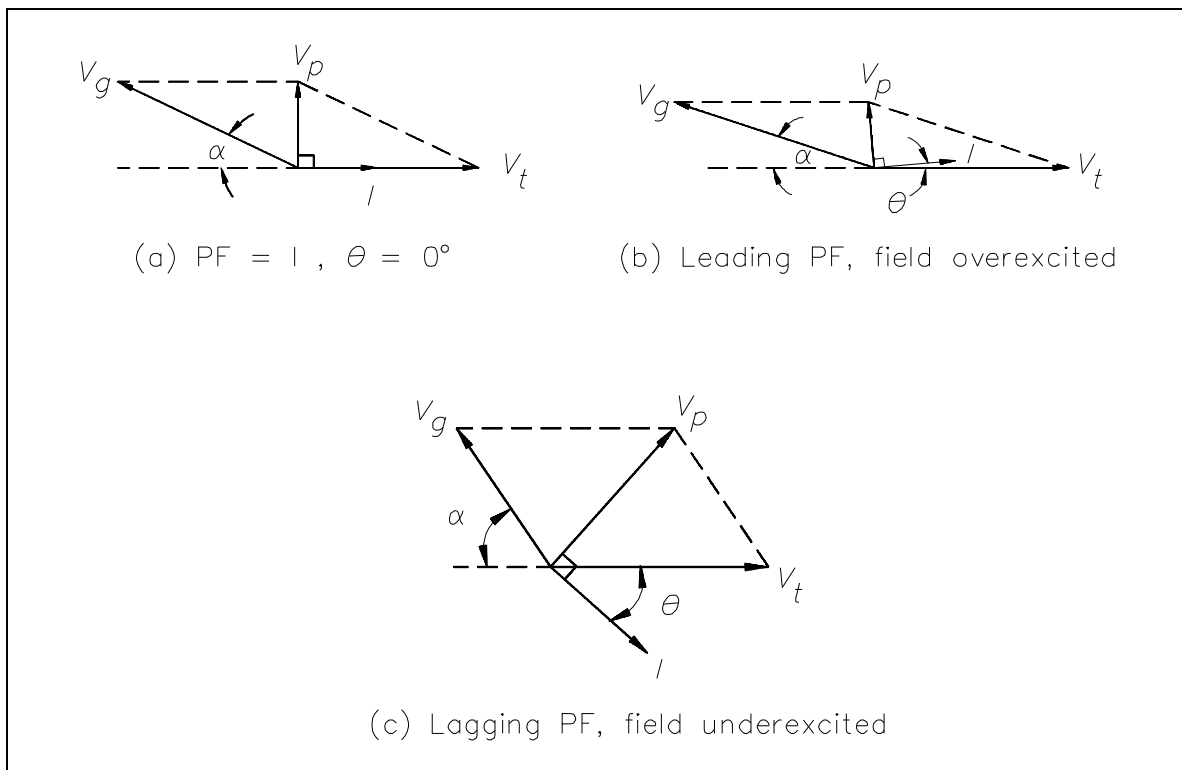

Figure 9 Synchronous Motor Field Excitation
For a constant load, the power factor of a synchronous motor can be varied from a leading value to a lagging value by adjusting the DC field excitation (Figure 9). Field excitation can be adjusted so that $PF = 1$ (Figure 9a). With a constant load on the motor, when the field excitation is increased, the counter EMF (V_G) increases. The result is a change in phase between stator current (I) and terminal voltage (V_t), so that the motor operates at a leading power factor (Figure 9b). V_p in Figure 9 is the voltage drop in the stator winding's due to the impedance of the windings and is 90° out of phase with the stator current. If we reduce field excitation, the motor will operate at a lagging power factor (Figure 9c). Note that torque angle, α , also varies as field excitation is adjusted to change power factor.